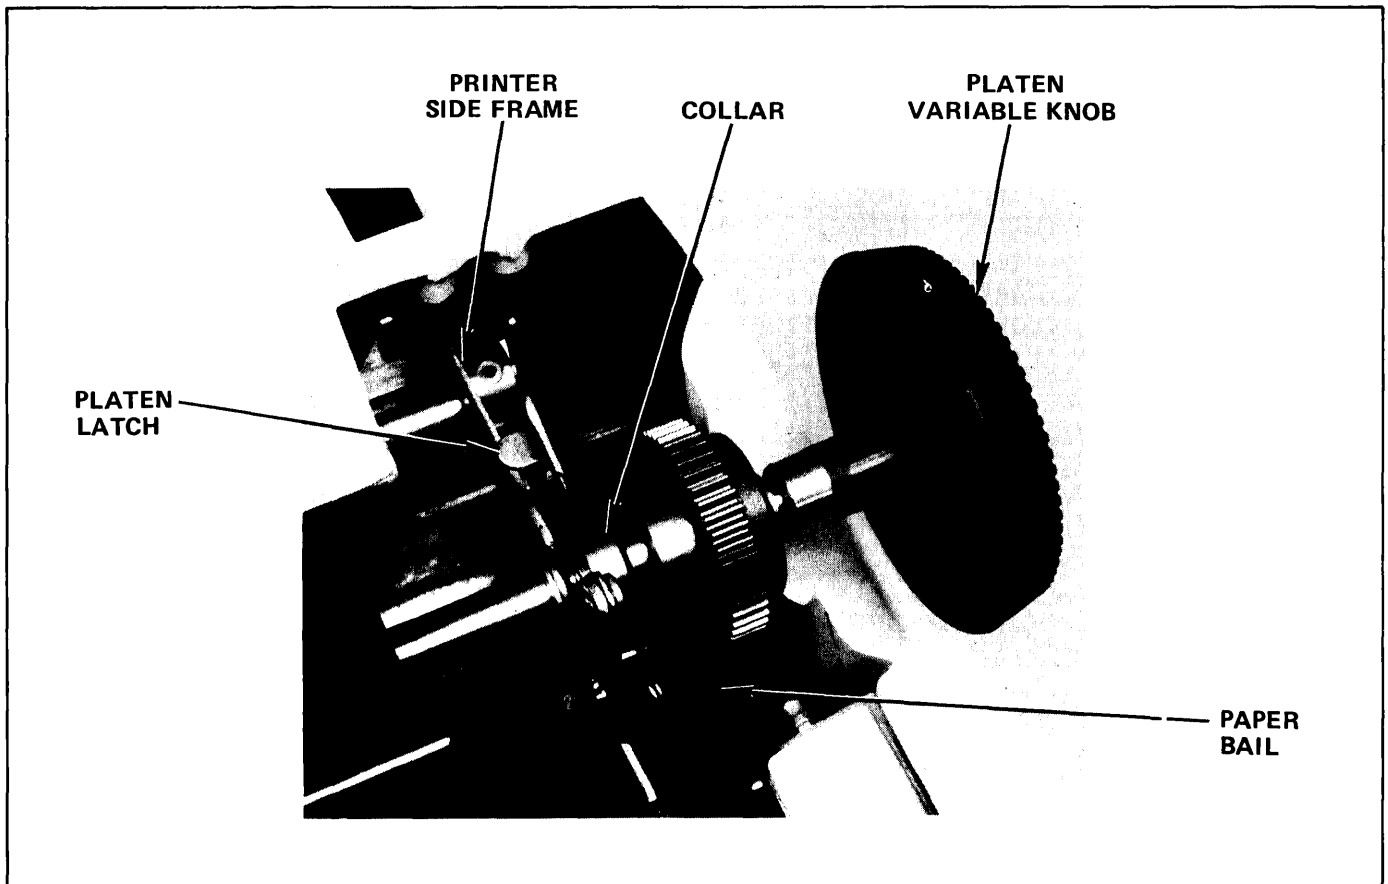

Figure 2-13a. Platen Removal
To replace the skirt, install the rear portion first, fitting the smaller of the two rear projections between the two bosses on the inside of the top cover (visible in Figure 2-13a). Lower the front of the skirt, guiding its two lower projections to the inside of the terminal top cover. When the skirt is positioned properly, the front will easily snap down into place.
- (1) Remove the tractor feed mechanism if one is used.
- (2) If the terminal has a "long" access cover, raise it to expose the ends of the platen. The long access cover is fastened to the top cover and cannot be fully removed. If a short access cover is provided, remove it and the two plastic platen skirts over each end of the platen (if used).
- (3) Pull the paper bail (Figure 2-13a) forward, away from the platen.
- (4) Refer to Figure 2-13a. Grasp the platen knobs in both hands, and while pressing down on the platen latches with the thumbs, lift the platen straight up out of the printer.
- (5) Set the platen aside carefully where it will not be damaged and where it cannot roll off onto the floor.
- (1) Raise the printer access cover if necessary, to expose the printer side frames where the platen is to be installed.
- (2) Pull the paper bail forward.
- (3) Pick up the platen by both hands, holding the end with the platen variable knob in the right hand. (The platen variable knob can be pushed in toward the center of the platen slightly; the other knob cannot be moved.)
- (4) Refer to Figure 2-13a. Position the platen over the printer so that both collars are aligned with the printer side frames. Depress the platen latches with